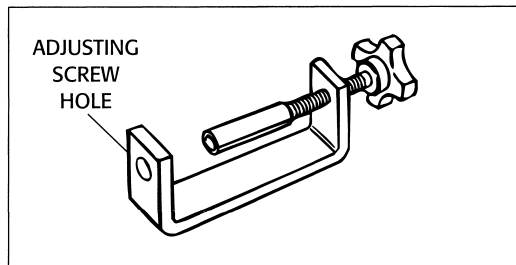

FIG. 2
5. Remove locknut (7) from slave piston adjusting screw (Auto-Lash®) (6) and back out screw until the slave piston is fully retracted.
6. Install the slave piston tool, P/N 017397, (Fig. 2) with the adjusting screw fitted into the hole in the tool.